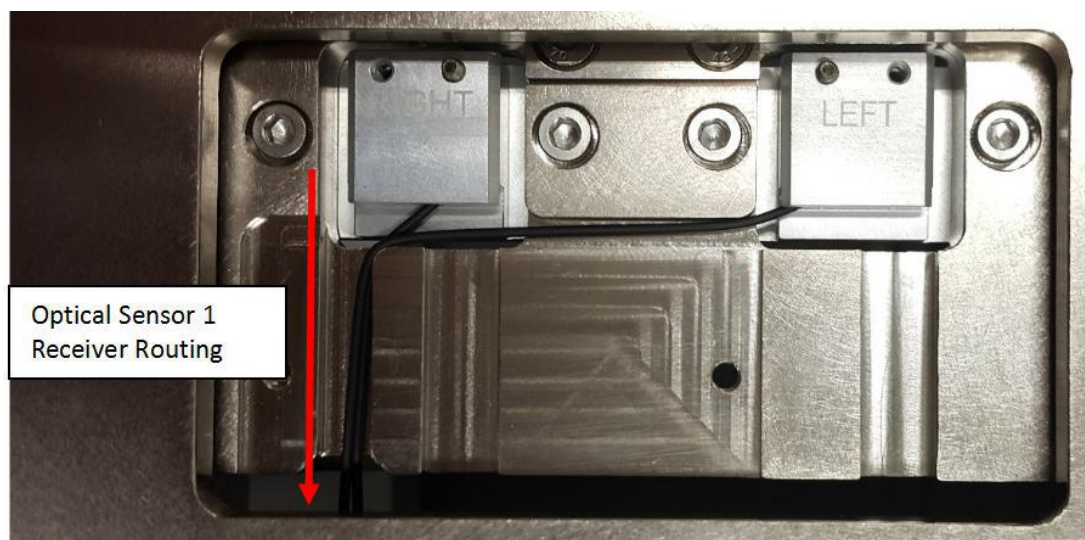

Figure 41 Optical PIP Sensor 1 Routing
6. The routing for Optical PIP Sensor 1 Receiver is as shown in Figure 41.